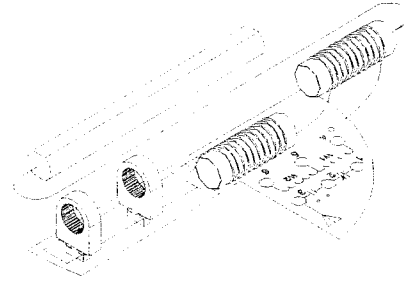

Figure 9
- Position the Coil as shown, inserting the leads down through the holes provided. (See Figure 9.)